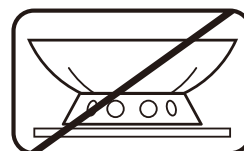

Fig.2
- Do not remove the pan support and enclose the burner with a wok stand not supplied by Electrolux as this will concentrate the flame and deflect the heat onto the top plate. (Fig 2)